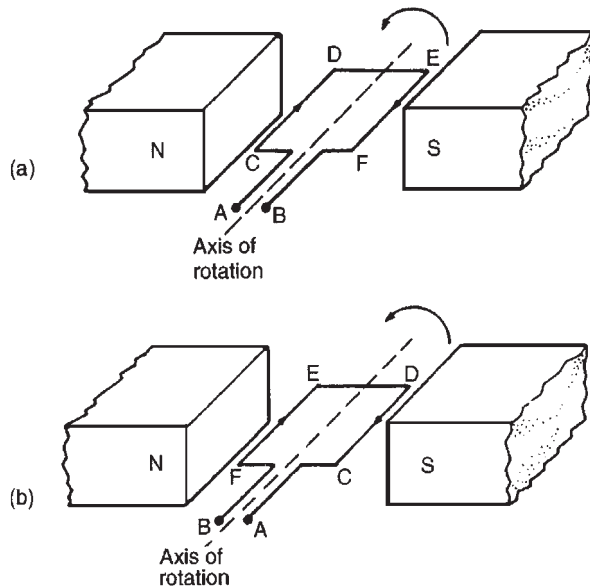

Figure 22.1
permanent magnets is shown in Fig. 22.1. A voltage is applied at points A and B in Fig. 22.1(a).
A force, F , acts on the loop due to the interaction of the magnetic field of the permanent magnets and the magnetic field created by the current flowing in the loop. This force is proportional to the flux density, B , the current flowing, I , and the effective length of the conductor, l , i.e. $F = BIl$. The force is made up of two parts, one acting vertically downwards due to the current flowing from C to D and the other acting vertically upwards due to the current flowing from E to F (from Fleming's left-hand rule). If the loop is free to rotate, then when it has rotated through 180° , the conductors are as shown in Fig. 22.1(b). For rotation to continue in the same direction, it is necessary for the current flow to be as shown in Fig. 22.1(b), i.e. from D to C and from F to E. This apparent reversal in the direction of current flow is achieved by a process called **commutation**.
- (iii) **field windings**, i.e. many turns of a conductor wound round the pole core; current passing through this conductor creates an electro-magnet, (rather than the permanent magnets shown in Figs 22.1 and 22.2),